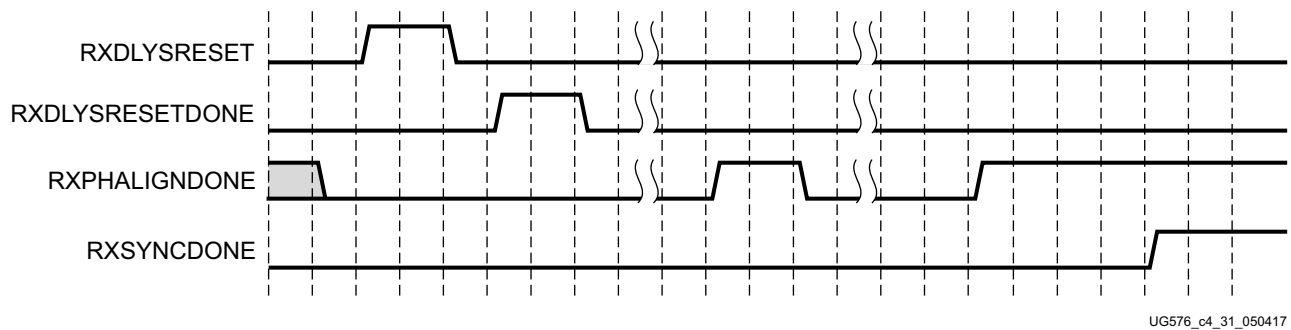

Figure 4-36: RX Buffer Bypass Example—Single-Lane Auto Mode
Figure 4-36 shows the required steps to perform the auto RX phase alignment and use the RX delay alignment to adjust RXUSRCLK to compensate for temperature and voltage variations.
Notes relevant to Figure 4-36:
1. The sequence of events in Figure 4-36 is not drawn to scale.